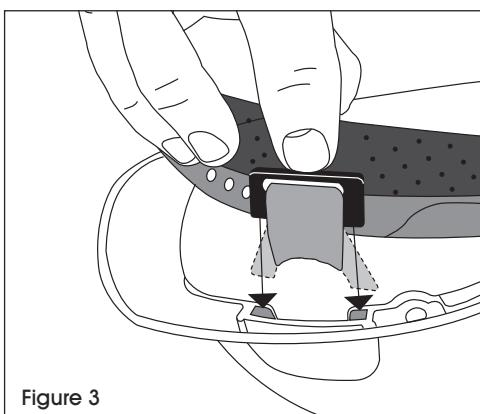

Figure 3
4. Slide suspension key into slot and press key fully into slot. (See Figures 3 and 4) Repeat for remaining three suspension keys.